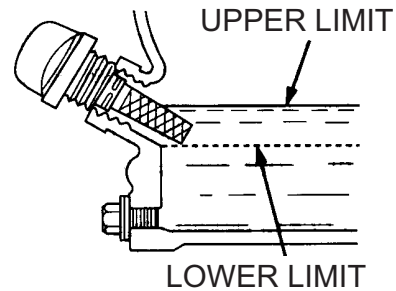

Figure 6. Engine Oil Dipstick (Oil Level)
4. If the oil level is low (See Figure 6), fill to the edge of the oil filler hole with the recommended oil type (Table 5). Maximum oil capacity is 1.16 quarts (1.1 liters).